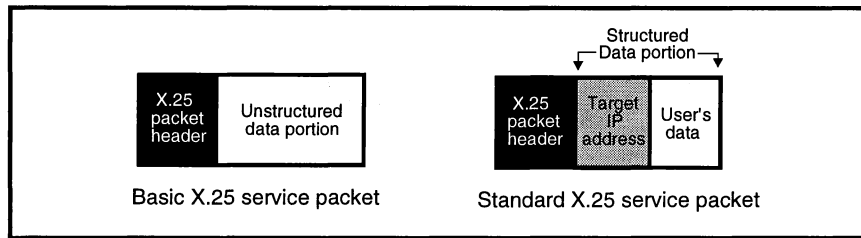

Figure C-2. Supports basic and standard service
- *DDN Standard X.25 Service*, which provides local-DTE-to-local-DCE support of X.25 connections. In Standard service, X.25 packets carry data in the form of a structured Internet packet, which is the mechanism for IP datagram transmission over X.25 WANs. When DDN Standard service is requested at the time a call is established, the call is established between the DTE and a local X.25 entity. This entity extracts the IP datagrams from the X.25 data packets for transmission through the DDN internet. (See figure C-2.)